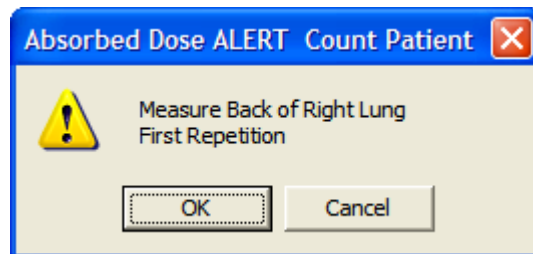

Figure 9-24
- You will be prompted to measure the correct organ as shown in Figure 9-24.